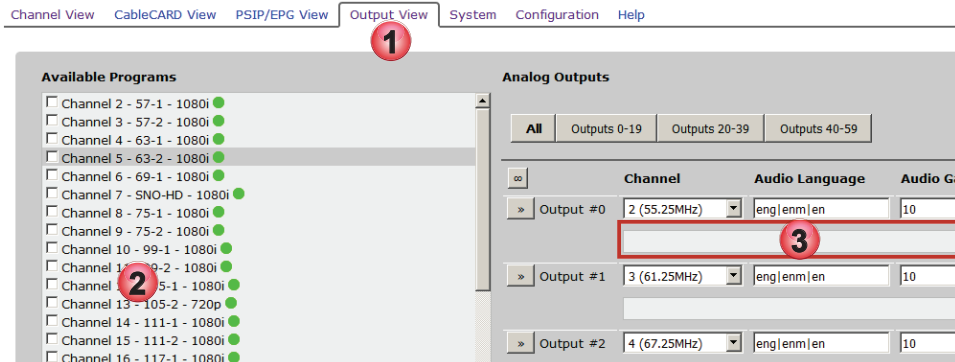

Figure 6-5: Programs Not Yet Assigned
1. Click to select the **Output View** tab if it isn't already selected, Figure 6-5.